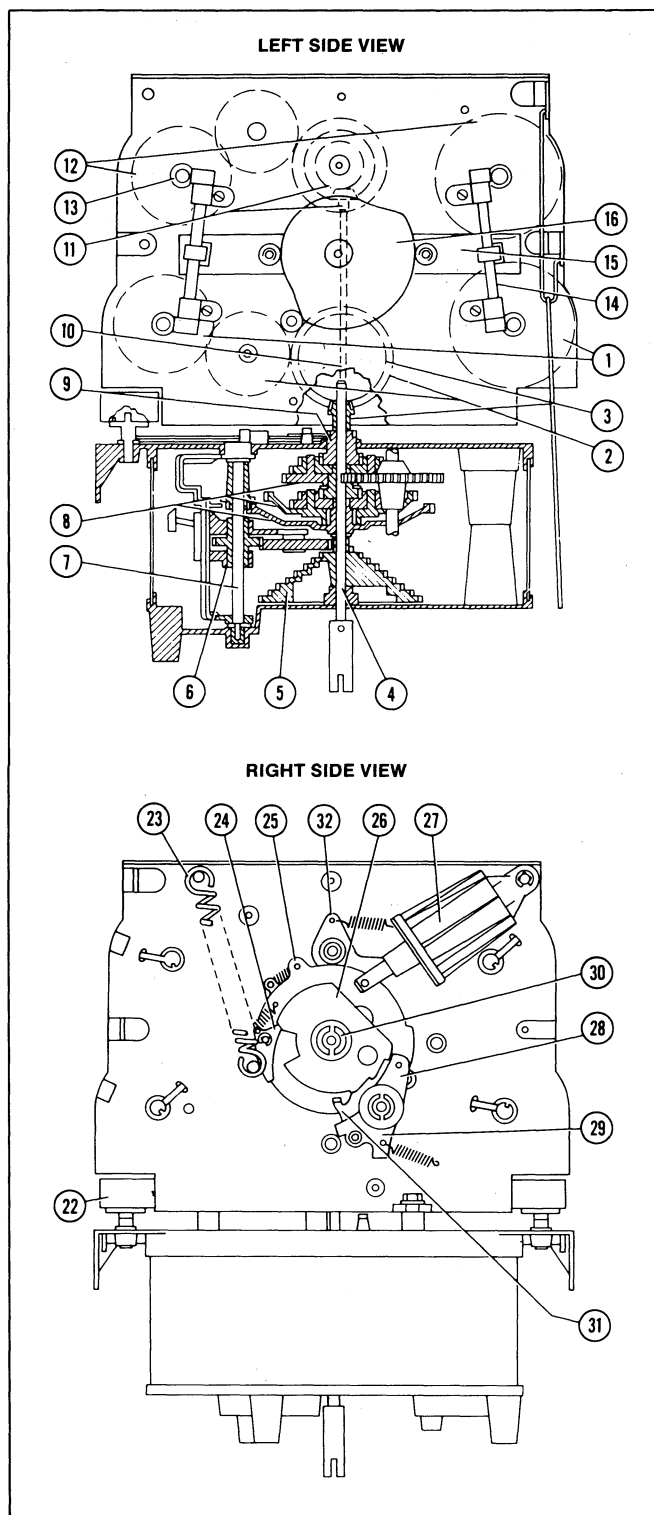
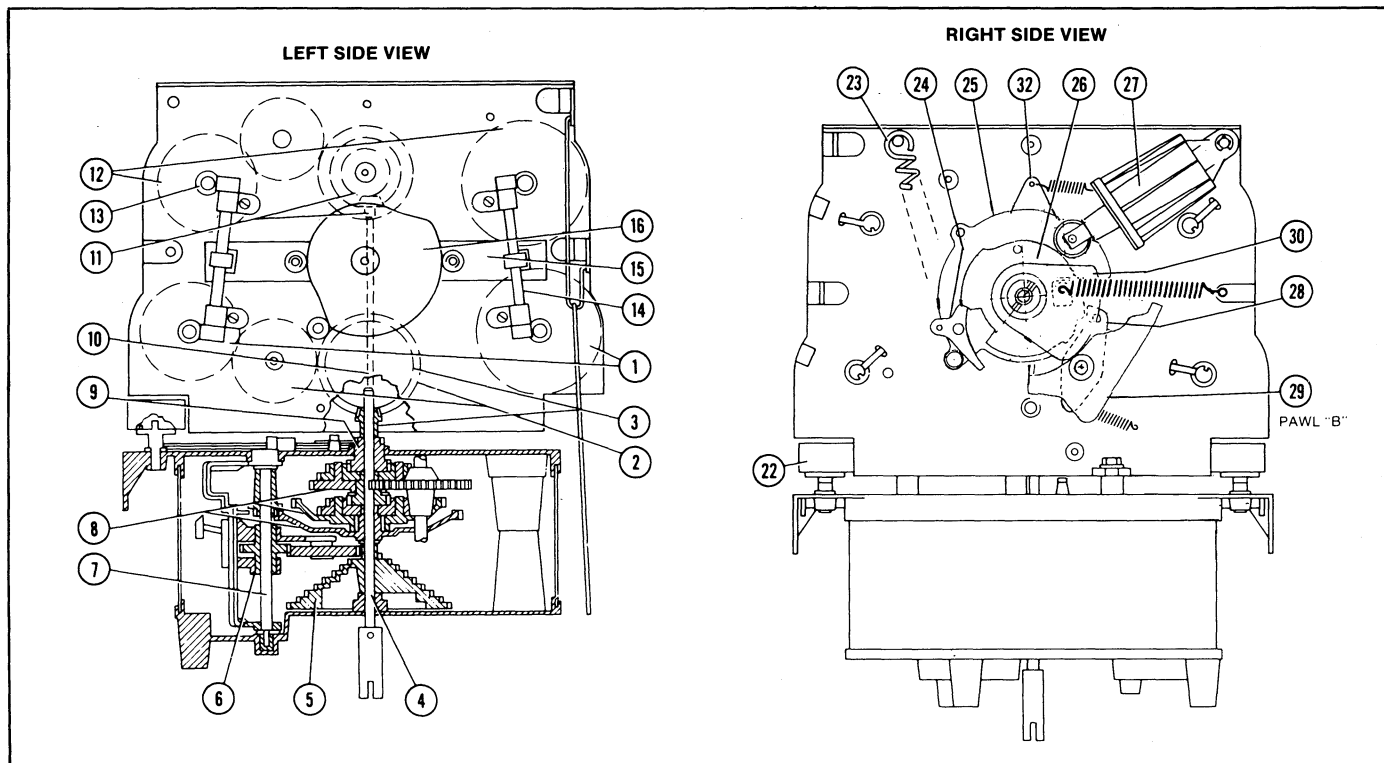

Figure 4. Left & Right Side Views. (Two Handle Reset)
Figure 4a. Left & Right Side Views. (Single Handle Reset)
1. Quantity Drive (Figure 4)(Figure 4a)
2. Money Drive (Figure 4)(Figure 4a)
B. RESET (Refer to Figure 4)
1. Resetting Wheels (Refer to Figures 4 through 7)
2. Going to Motor On (Refer to Figures 4 through 7)
3. Going to Motor Off (Refer to Figures 4 through 7)
1. Resetting Wheels (Refer to Figures 4a, 5a, 6, & 7 and Positions F, G, H, J, K, L, M, & N)
2. Going to Motor On (Refer to Figures 4a, 5a, 6, & 7)
3. Going to Motor Off (Refer to Figures 4a, 5a, 6, & 7)
D. FIGURE WHEELS (Refer to Figures 4 through 7)